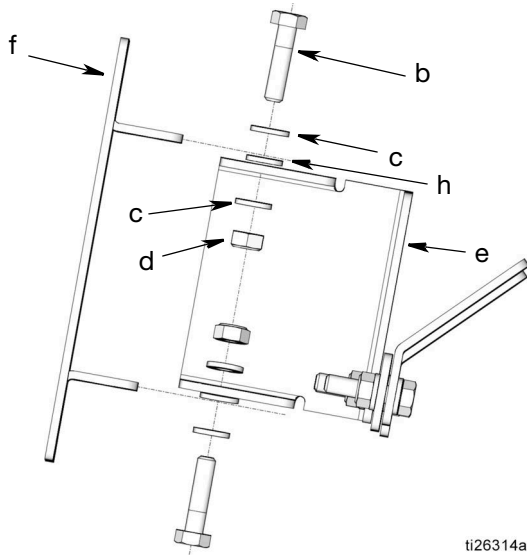

FIG. 87
- c. Install the GLC200 mounting plate (f) to the mounting base plate (e) using bolts (b), washers (c) and nuts (d) as shown in FIG. 87. Be sure washer (h) is installed between the mounting plate (f) and mounting base plate (e) on the top and bottom. Wrench tighten nuts securely.